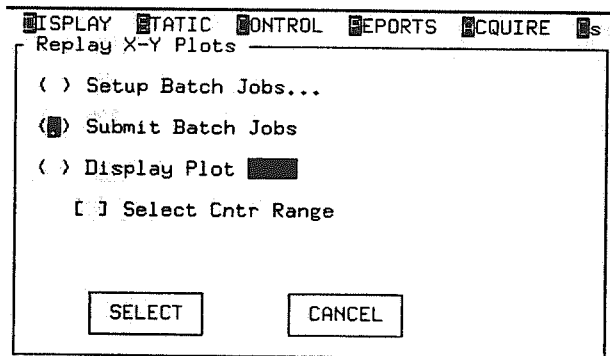

Figure 12-22 Dialog Box used to Select the Submit Batch Jobs Option
- Step 1)** Select **Graphs, Replay X-Y Plots** option. The dialog box shown in **Figure 12-22** is displayed.